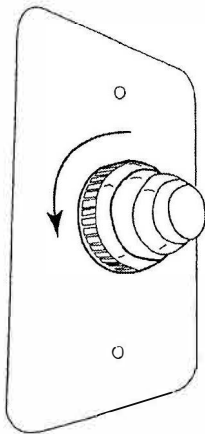
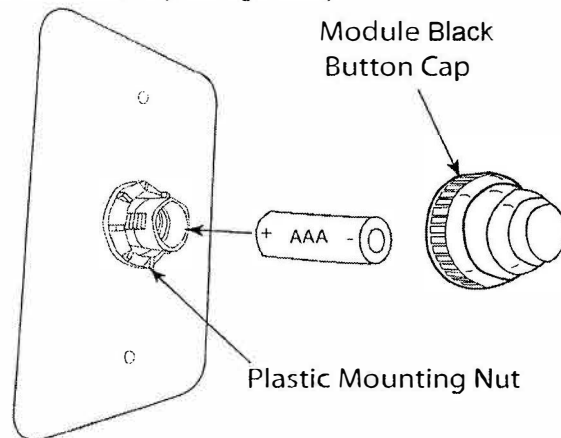
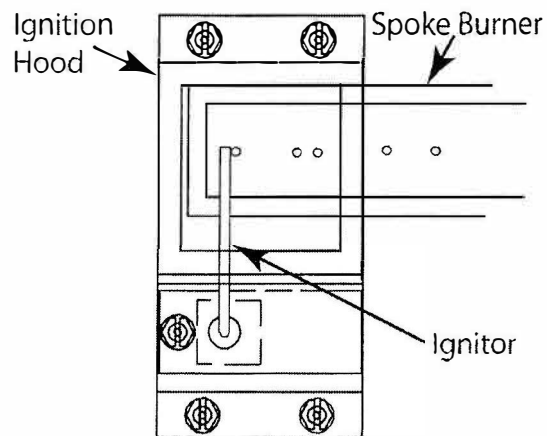

Fig. 6 Piezo ignitor cap.
Fig. 7 Piezo ignitor battery installation.
Fig. 8 Proper alignment of probe.
The piezo ignitor requires (1) AAA battery in order to spark/operate. Unscrew (counter-clockwise) the piezo ignitor cap (See fig. 6) and insert the positive end of the battery into the ignitor body. Screw the cap (clockwise) until snug (See fig. 7). Careful not to overtighten the cap. Test the ignitor by pushing and holding the red button to ensure the ignitor probes inside the fire pit are sparking. The spark should be located directly overtop of the burner port hole for proper ignition of the gas (See fig.8). Spacing between the probe and spoke burner should be approximately $3/16$ -inch for proper spark.
For proper ignition it is important that the ignitor probe be properly aligned overtop of the burner port holes. Use Fig.8 as a guide. Before lighting remove the screen cover of the ignition hood to burner and ensure the spark probe is directly overtop of a burner port hole. The sparking probe must be in the path of a flame to ignite the gas for proper ignition of the flame. Replace the screen cover and follow the operating instructions.
4. Gas should ignite within 10 seconds or less. If fire pit does not light within 10 seconds turn key clockwise to turn OFF the gas supply. Check ignitor probe location (Fig. 8), ensure there is an 1/8" gap between the probes with a good stong spark then repeat steps 2 through 4.